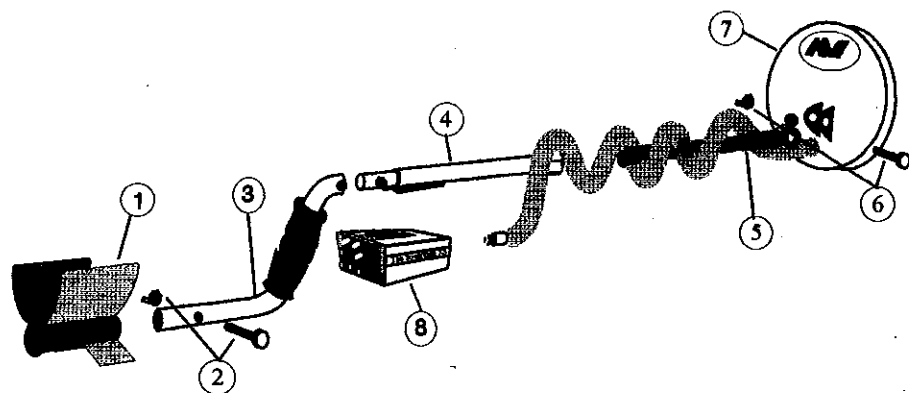

Figure 1 - Assembly of the Sovereign XS
- A. Remove the black nylon bolt and nut (2) from the armrest (1).
- B. Slide the armrest (1) (with the support fins pointing to the ground) onto the end of the grey upper shaft (3) furthest from the foam handgrip (as is shown in figure 1). Line up the holes at a comfortable position for the length of your arm.
- C. Push the nylon bolt (2) through the holes and tighten the wing nut by hand.
- A. Slide the intermediate shaft (4) into the upper shaft (3) taking note of the position of the black "V" clip (as shown in figure 1). Ensure that they click together correctly and will not easily come apart.
- A. Remove the tape on the lower fiberglass tube (5) which is holding the black teardrop washers in place. Make sure the washers do not fall out after removing the tape.
- B. Remove the white nylon nut and bolt (6) from the coil (7).
- C. Push the lower fiberglass tube (5), with the teardrop washers in place, into the bracket on the coil so that the holes line up. **Make sure that the black nylon spring clip, near the top of the fiberglass tube, is pointing toward the rear of the coil.**
- D. Push the white nylon nut and bolt (6) (as shown in figure 1) through the holes in the bracket on the coil from the cable entry side, then place the spacer and wing nut on the other end of the bolt and tighten by hand.
- A. Slide the lower shaft assembly into the intermediate shaft (4). Note that the black plastic locking nut may need to be loosened to get the lower shaft assembly in.